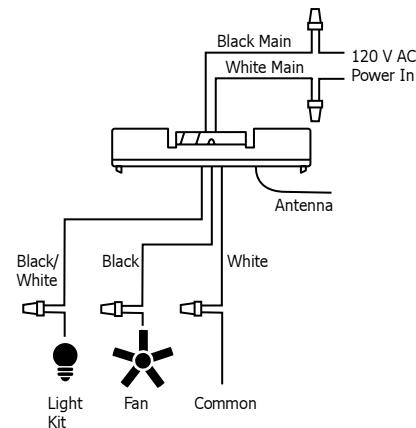

Figure 2 - Wiring Diagram
4. Use the two large wire nuts supplied to connect the receiver and house wiring, then use the three small wire nuts supplied to connect the receiver and ceiling fan wiring. Refer to the Wiring Diagram in Figure 2.